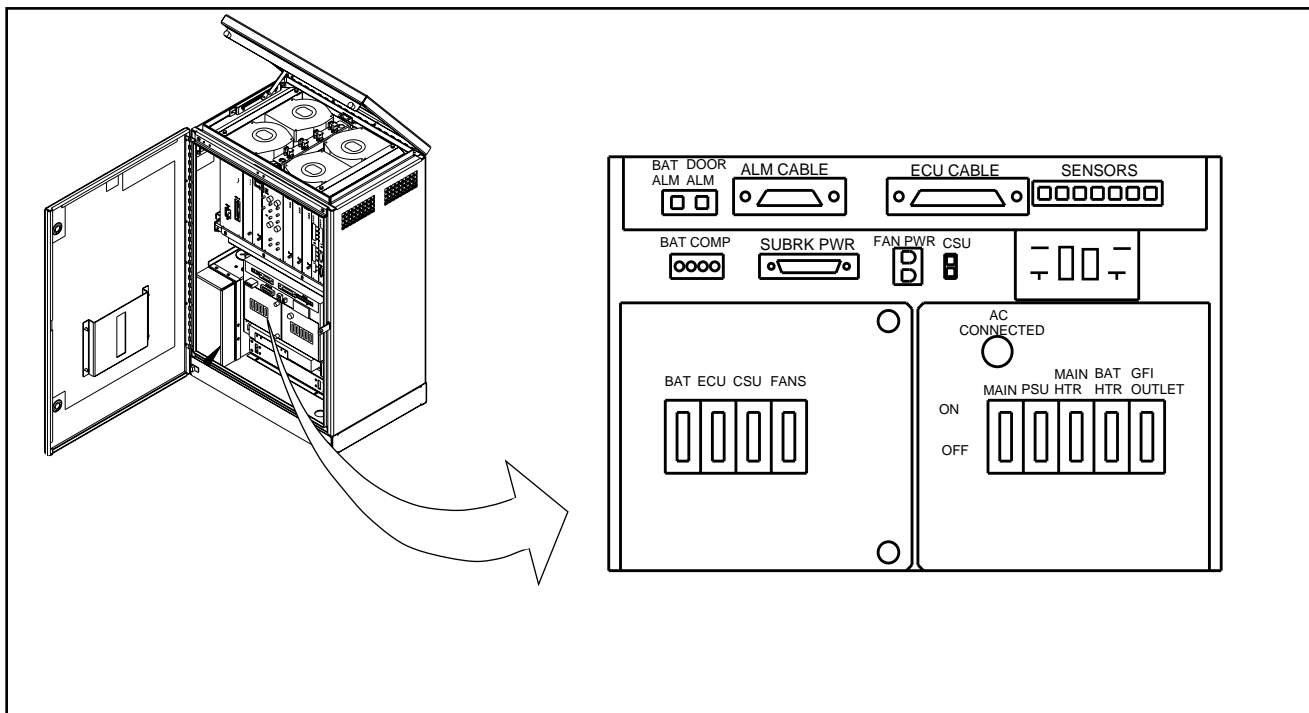

Figure 5-20. AC/DC Distribution Box
3. Place the **MAIN HTR** circuit breaker on the right side of the AC/DC Distribution Box in the OFF position. See Figure 5-20 on page 5-42.